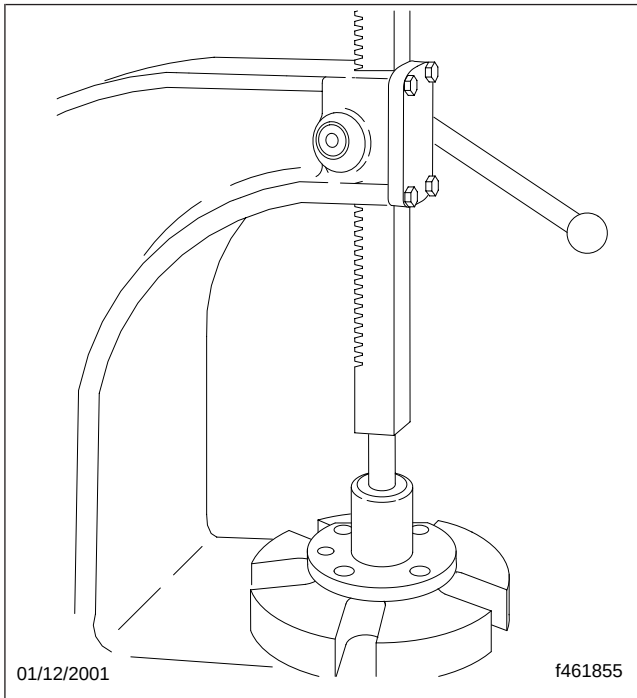

Fig. 3, Salt Seal Installation
12. With the lip facing out, press a new salt seal into the bearing cap cover until it is flush with the face of the cover. See Fig. 3. Make sure the seal lip, or silver spring, is facing the top of the cover.